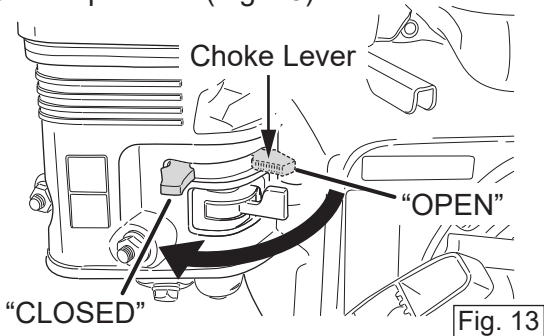

Fig. 13
3. To start a cold engine, move the choke lever to the "CLOSED" position. To restart a warm engine, leave the choke lever in the "OPEN" position. (Fig. 13)